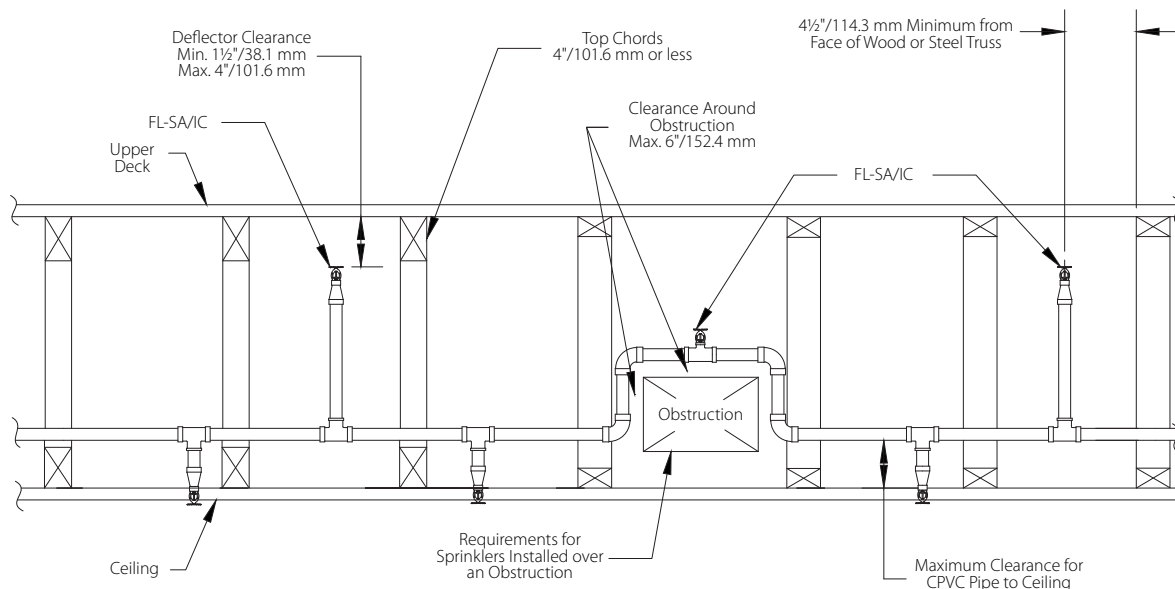
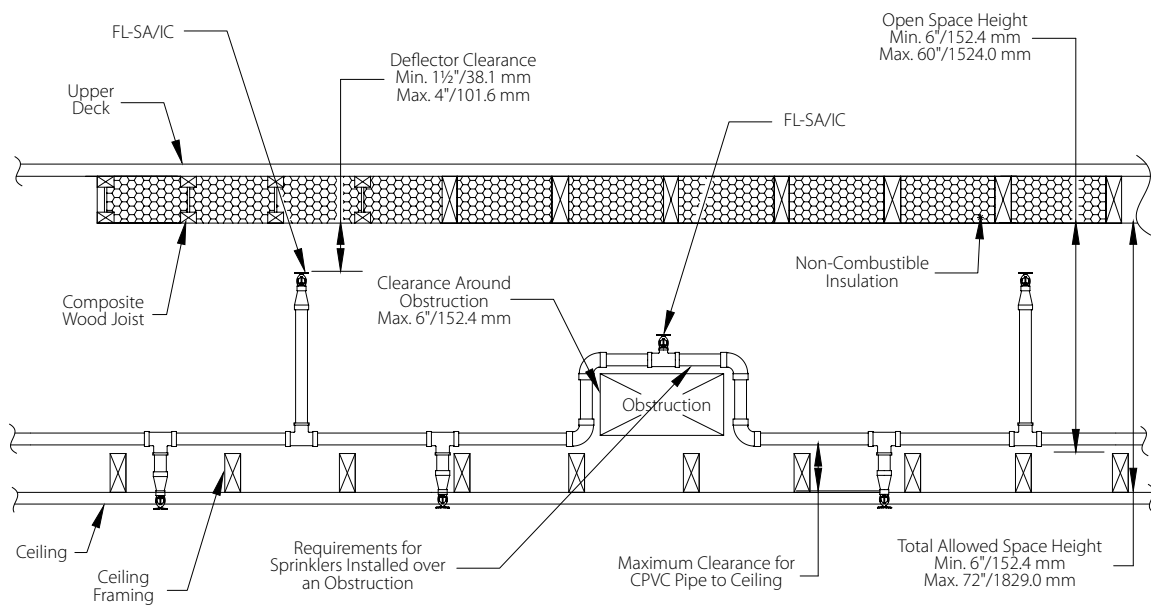

FIGURE 1
FIGURE 2
Solid or Composite Wood Joist Construction Where the Upper Deck is Filled with Non-Combustible Insulation (Figure 2)
Deflector Position: The clearance from the sprinkler deflector to the bottom of the joist is 1 ½" minimum to 4"/102 mm maximum (refer to Figure 2 Deflector Clearance).
Unobstructed Wood Truss and Bar Joist Construction (Figure 1)
Deflector Position: The vertical sprinkler-deflector clearance to the bottom of the roof deck is 1 ½"/38.1 mm minimum to 4"/101.6 mm maximum. The lateral sprinkler-deflector clearance from the side of chords or web members is a minimum 4 ½"/114.3 mm to centerline of sprinkler (Refer to Figure 1). The combustible concealed specific application sprinkler must be installed only in the upright position. The sprinkler deflector must be in-stalled parallel with the plane of the roof.
- If 12"/304.8 mm trusses are used in Figure 1, the bottom of the horizontal run must be no greater than 4"/101.6 mm above the ceiling. In Figure 2, if the concealed space height from the bottom of the upper deck joist to the top of the ceiling joist is the minimum 6"/152.4 mm requirement, the bottom of the horizontal run must be no greater than 4"/101.6 mm above the ceiling (refer to Figures 1 and 2, Maximum Clearance for CPVC Pipe to Ceiling).
- When sprinkler system piping must be offset up and over an obstruction, and the bottom of the pipe will be located more than 6"/152.4 mm or $\frac{1}{3}$ of the total space above the ceiling, additional combustible concealed specific application sprinklers must be installed to protect the CPVC product (refer to Figures 1 and 2, Maximum Space for CPVC Pipe Over an Obstruction). The sprinkler must be installed directly over the obstruction (refer to Figures 1 and 2, Sprinklers Installed Over an Obstruction).